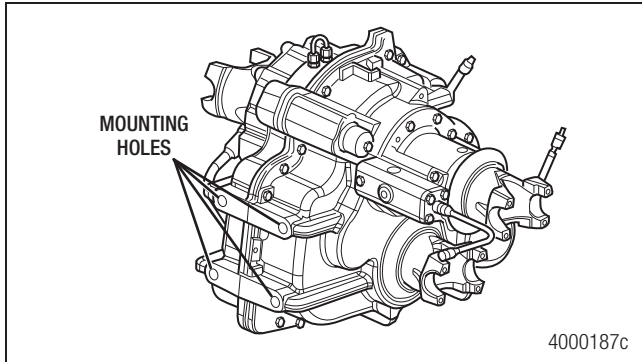
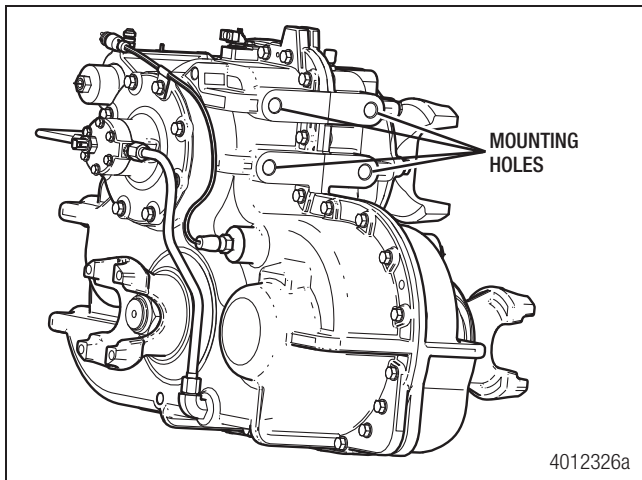

Figure 4.7
Figure 4.8
- Construct suitable mounting brackets or similar fixtures. Attach the brackets to the front half of the transfer case by installing bolts through the mounting holes in the transfer case. Figure 4.7 and Figure 4.8.
- Attach a suitable lifting device to the eyebolts to lift the transfer case. Use suitable brackets to mount the case in the repair stand. Figure 4.7 and Figure 4.8.